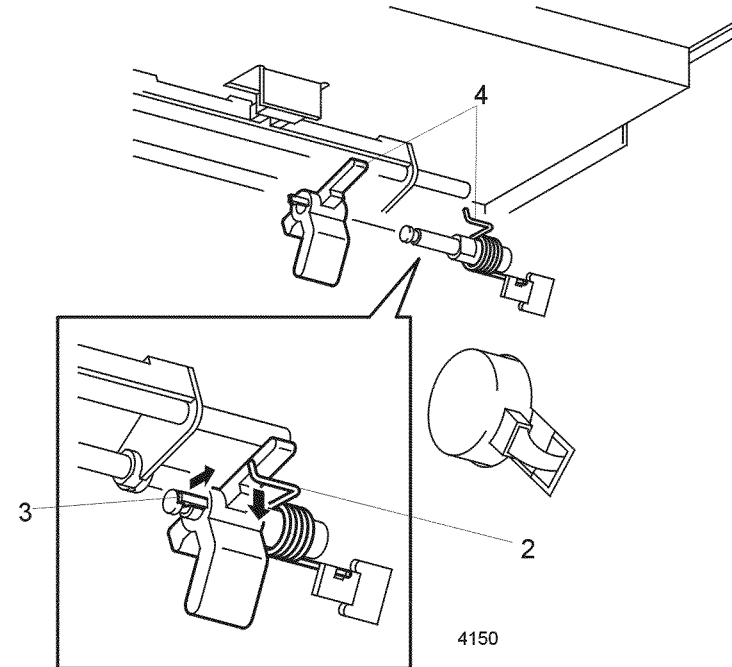

Figure 1 Link Stopper
4. Pull up on the locking tab and remove the Link Stopper (Figure 1).
5. Remove the Torsion Spring (Figure 1).